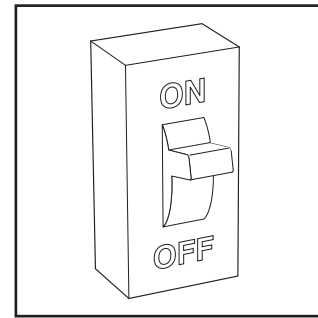

Fig. 14 - Turn on Electrical Supply
8. Turn ON the electrical supply to the furnace and wait one minute. See Fig. 14.